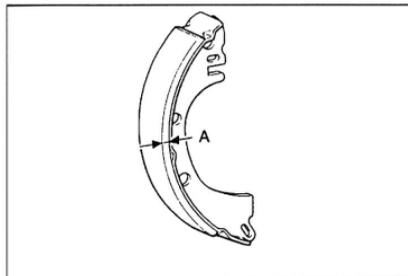

Fig. 16-23
(1) Remove the brake drum.
(2) Measure the thickness of the brake lining at the place where worn is serious(see Fig. 16-23)